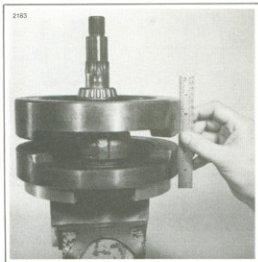
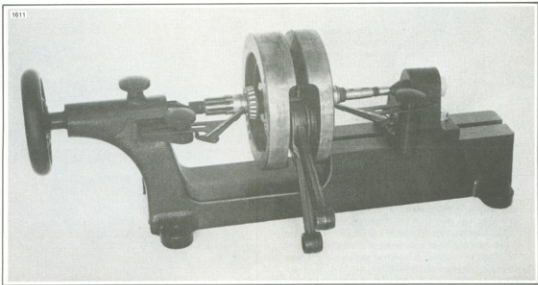

Figure 3-51. Squaring Flywheel Faces
Figure 3-53. Truing Flywheel
- Position right flywheel assembly in flywheel fixture, crank pin up. Wipe crank pin taper clean. Slip bearings and connecting rods over crank pin with forked rod to rear cylinder. On late 1983 and later connecting rods, the area of the male rod where it joins the crankpin bearing is slightly offset from the rod center. The heavy portion of the offset must face away from the forked female rod to be installed correctly. See Figure 3-53. Late 1983 and later connecting rods will not function in early 1983 and earlier flywheel halves. Wipe crank pin hole in left flywheel clean and dry. Install left flywheel and tighten nut lightly. Hold steel straightedge along outer face of wheel rims at 90 degrees from crank pin as shown in Figure 3-51. Tap outer rim of top wheel until wheels are concentric. Tighten nut, recheck with straightedge at frequent intervals. Use soft metal hammer to realign wheels.
- See Figure 3-53. When nut is fairly tight, install flywheel assembly in FLYWHEEL TRUING DEVICE, Part No. HD-96650-80. Adjust so centers are snug. Wheels must turn freely but shafts may not be loose in centers. If flywheel assembly is either loose or squeezed, indicators will not read accurately. Adjust indicators to take reading as near to flywheels as possible, so pointers read at about the middle of the scales.